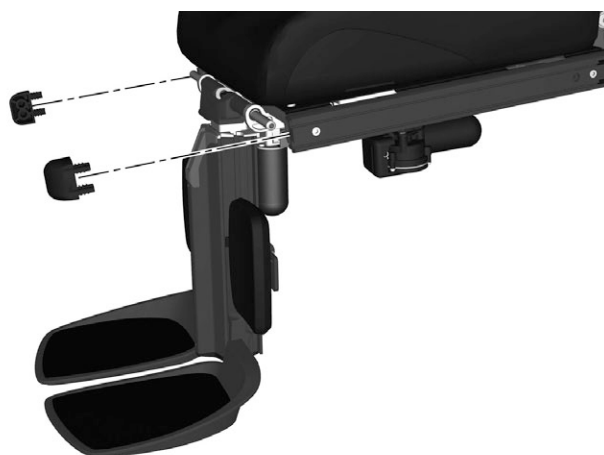

Figure 234. Remount the front ends of the UniTrack rails.
3. Mount the front ends of the UniTrack rails. See fig. 234.